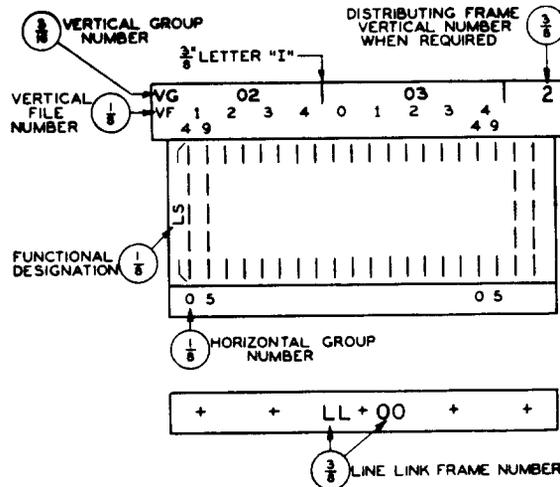

Fig. 17 — Terminal Strips — 268C and Similar Types —
(2) **Terminal strips, as required for the sleeve leads** for each line link frame, are arranged on one shelf. The line link frame number shall be stamped in the middle of the group of terminals serving the respective frames as shown in Fig. 17, 18, 19, and 20. Fig. 17 and 18 show one sleeve terminal per circuit for part of the circuits on each line link frame. Fig. 19 and 20 show two sleeve terminals per circuit for all of the circuits of a line link frame. Only the required number of sleeve terminals are provided and stamping may be required for one or two sleeve terminals for some or all of the circuits of a line link frame. Actual stamping shall agree with applicable portions of Fig. 17, 18, 19, and 20.